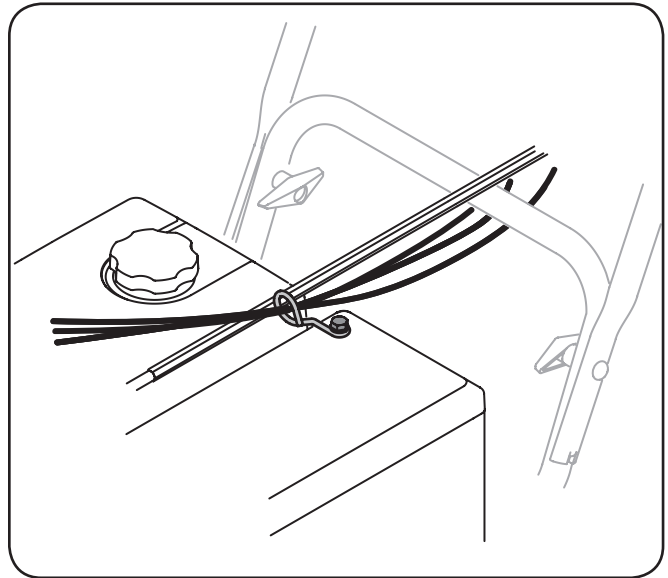

Figure 3-9
7. Check that all cables are properly routed through the cable guide on top of the engine. See Figure 3-9.